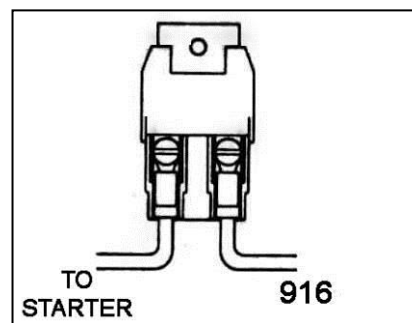

Figure 7-3 Maxi Fuse
7.3.1 With crimping tool, attach Maxi Fuse (**Figure 7-3**) onto end of ENGINE SECTION (single) 10 ga. wire #916 (red) AFTER having routed wire from the Fuse Panel to the Starter Solenoid. This serves as a fuse to protect the entire harness. DO NOT OMIT IT!